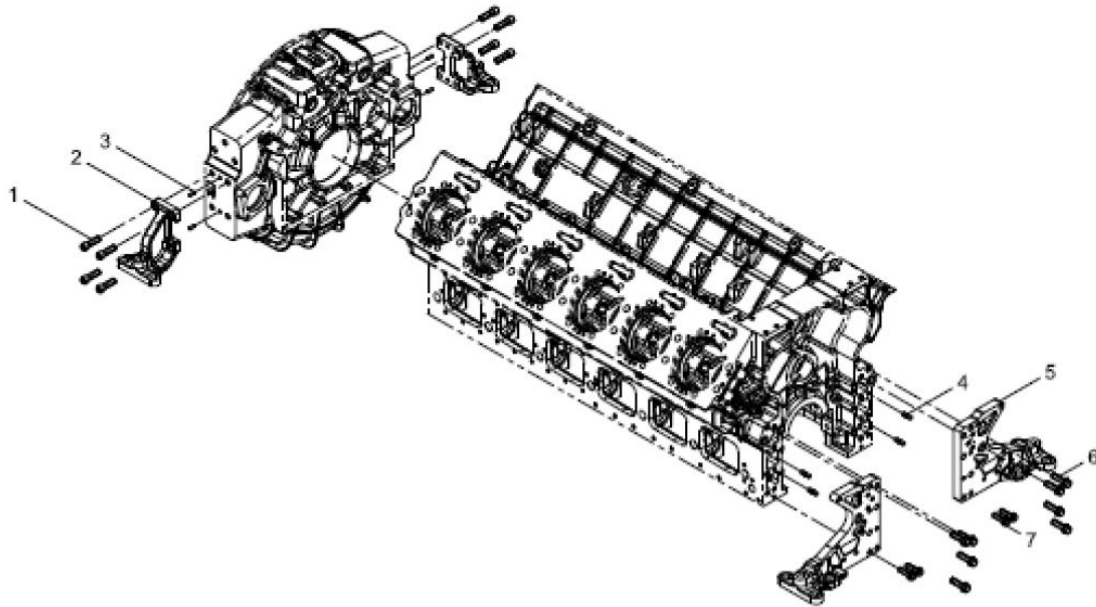

Figure 4. Engine Bracket Assembly
1. Loosen and remove bolts (Figure 4, items 1 & 6).
2. Remove engine mounts (Figure 4, items 2 & 5).
1. Place engines mount on cylinder block and flywheel housing (Figure 4, items 2 & 5).
2. Insert and tighten bolts (Figure 4, items 1 & 6).